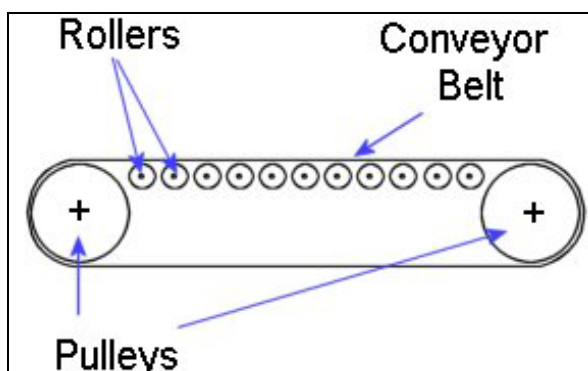

Figure 6. Roller Bed Conveyor.
**Roller Bed** conveyors consist of multiple shaft supported “free rolling” canisters (usually constructed of steel, although other materials may be used) aligned perpendicular to the conveying surface, and one drive pulley (Figure 6).
There is also a roller conveyor (non-powered), where material is physically pushed along by hand. The design is similar to Figure 6, yet has no driver pulleys and no conveyor belt.